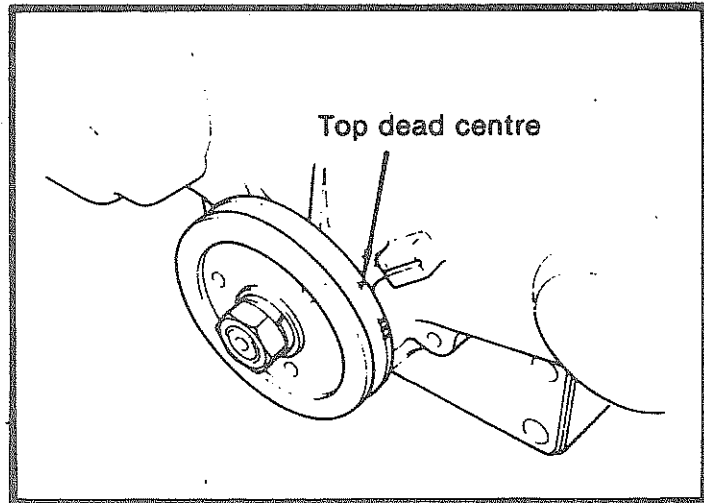

Fig. 23
c) The top dead centre position of no. 1 cylinder can be checked by means of the alignment markings on the valve cover and the crankshaft pulley (Fig. 23).